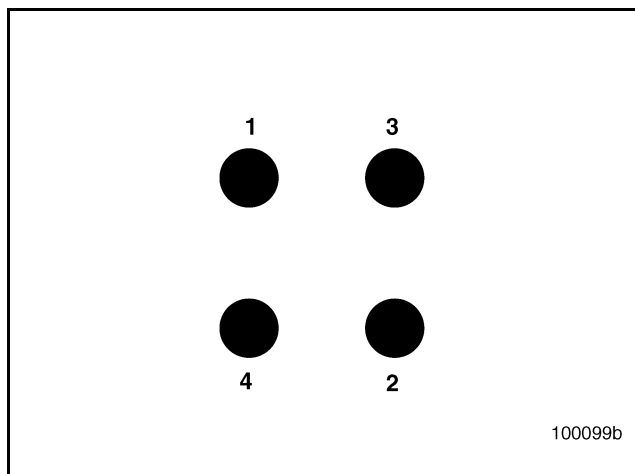

Figure 402 — Turbocharger Tightening Sequence
4. Apply a coating of clean engine oil to the flanges and threads of the four nuts. Install the nuts and using torque wrench J 24406, or equivalent, tighten the nuts in a cross-pattern sequence (Figure 402) in two stages: